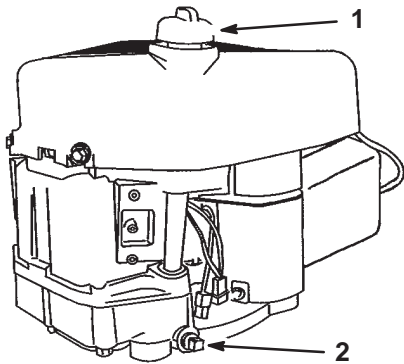

Figure 15
- Place a pan below the oil drain plug and remove it (Fig. 15).